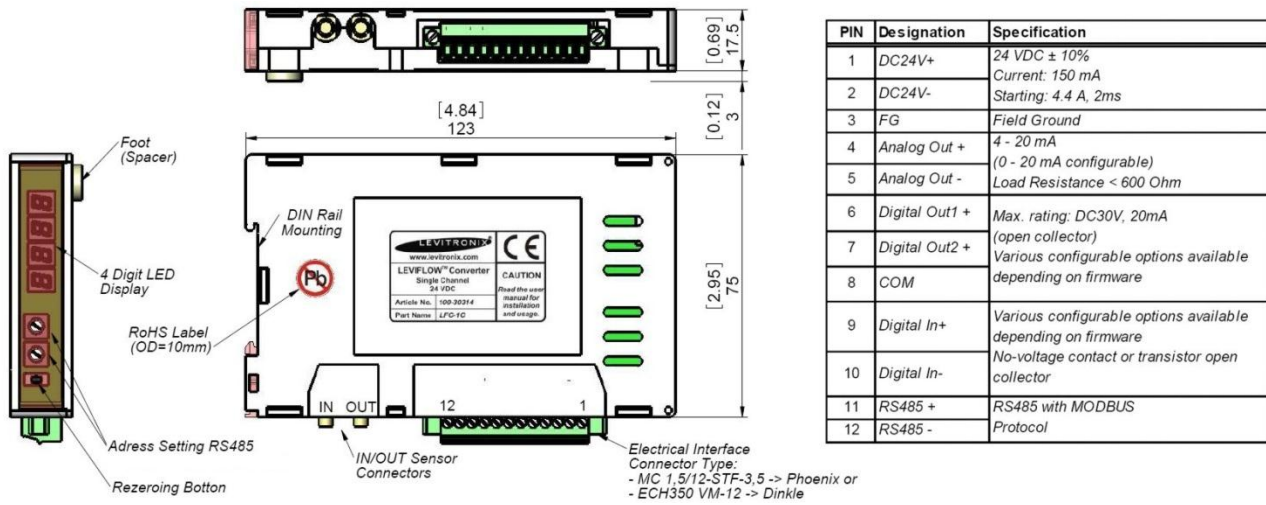

Figure 7: Dimensions and layout of interfaces of single channel converter LFC-1C / LFC-1C-F4
3. Attach the necessary wires (AWG 14-26) according to the pin specifications in *Figure 7*.